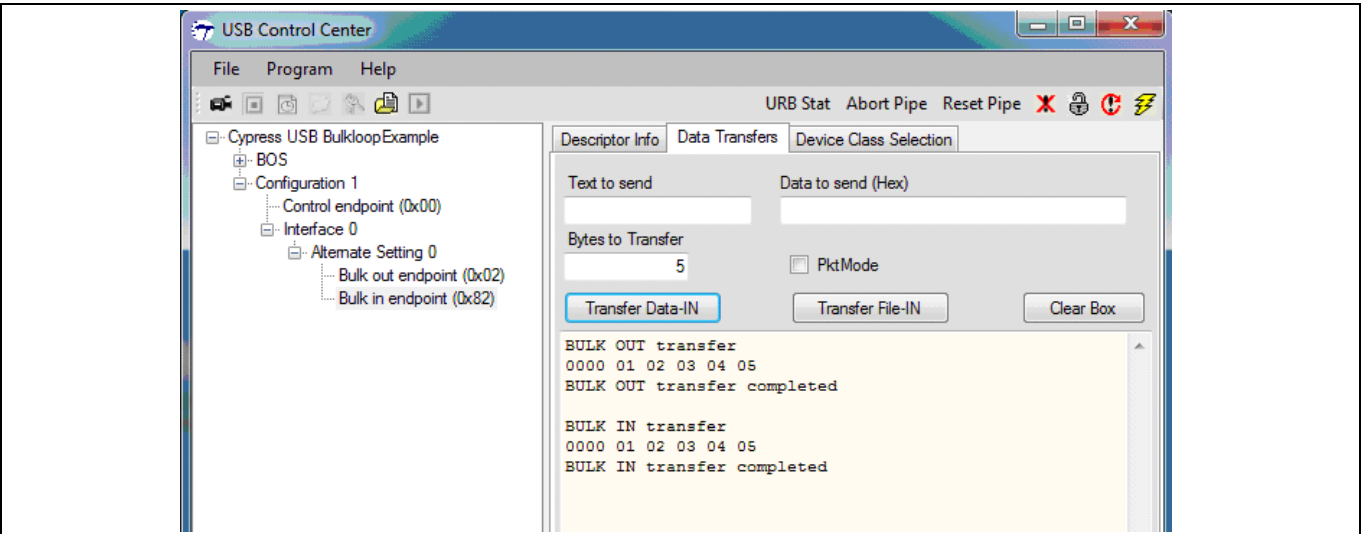

Figure 25 BULK IN Transfer
3. The BULK Loop program sends back any data it receives over the OUT endpoint using the correspondingly-numbered IN endpoint. To perform the BULK IN transfer, select the **BULK in endpoint (0x82)** in the left pane. Enter the number of bytes to transfer in the **Bytes to Transfer** field. Click on **Transfer Data-IN**. Figure 25 shows the same 5 bytes being received back on IN endpoint (0x82).